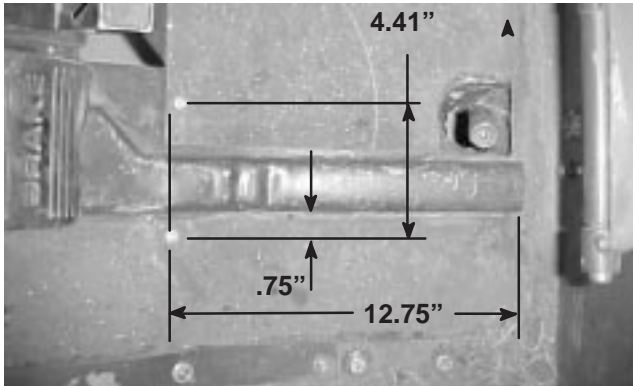

Figure 1
1. Using dimensions shown in figure 1, locate, mark and drill (2) .28 in. dia. holes in traction unit platform. Use caution when drilling as there are hoses and cables under platform.